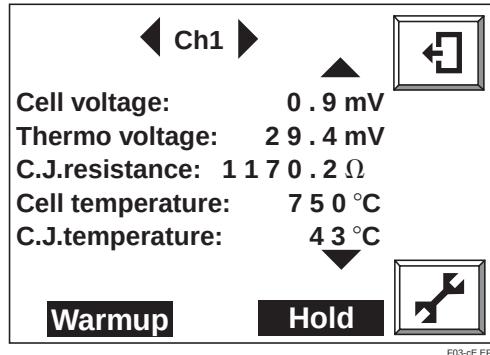

Figure 12.8 Detailed Data Display
- b. The cell voltage should be indicated on the top line. (Figure 12.8)